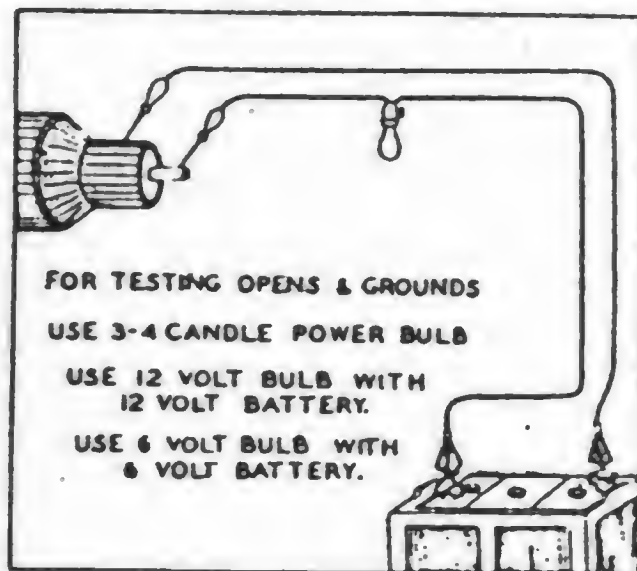

FIG. 42 TEST LAMP
(1) *General.* Most of the following testing instructions may be used without disassembling the generator. In each instance where an exciter armature winding or an alternator field winding tests open-circuited, short-circuited or grounded, the practical repair is to install a new rotor assembly. If a stator winding tests open-circuited, short-circuited or grounded, the practical repair is to install a new stator winding assembly unless the trouble is in the leads outside the winding proper. The rotor windings and the stator windings can be successfully repaired only by a competent rewinding shop. The tests require the use of a 6-volt battery, a 3 or 4 candle-power, 6-volt lamp and socket, two test prods and the necessary connecting wire as shown in (Fig. 42). Certain tests require a d-c voltmeter. Before starting the tests, remove the cover from the exciter, lift all brushes high in their holders and set the ends of the springs against them so as to hold them high. Then disconnect the four stator winding cables from posts of the a-c terminal block and the large exciter cable from the right hand terminal of the solenoid starting switch. See wiring diagram. Tag the cables so as to avoid error in replacing them. In using test prods, make sure that good electrical connection is made at points of contact.